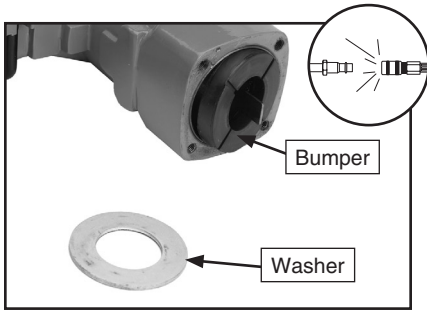

Figure 9. Bumper and washer.
- Carefully slide the base off of the driver and remove the large washer and rubber bumper (see **Figure 9**).